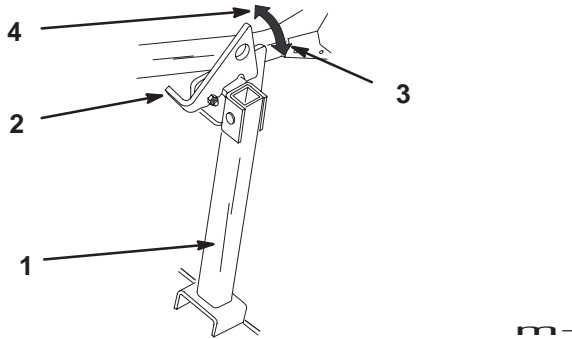

Figure 28
6. Drive onto stand. Stop when latch drops over tab into locked position (Fig. 28). Once onto stand, engage parking brake. Shut off engine.
1. Raise latch to unlocked position (Fig. 28).